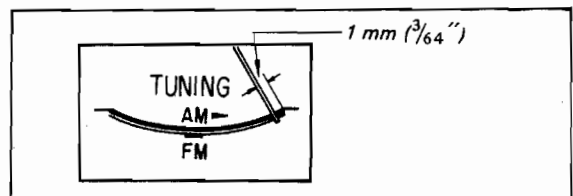
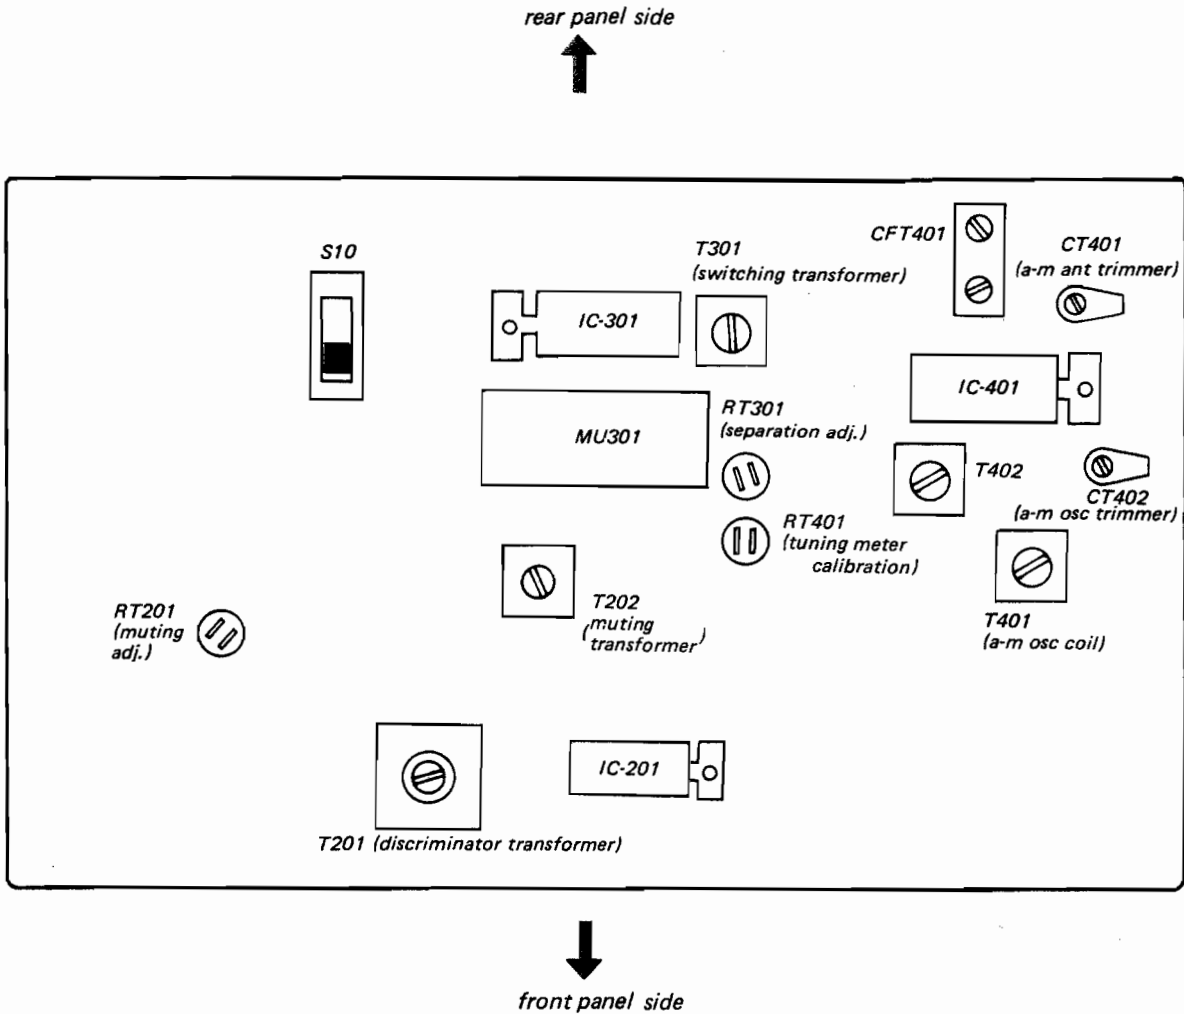

Fig. 3-9. TUNING meter calibration
Fig. 3-10. Adjustment parts location
1. Precisely tune the receiver to the carrier frequency of stereo signal generator, then turn the top core of switching transformer T301 (See Fig. 3-10) to obtain maximum output at the left channel. Note that this adjustment has a close relationship with stereo distortion.
4. The output-level to residual-level ratio represents the separation. Adjust separation adj. control RT301 (See Fig. 3-10) for minimum residual level. Check the right channel for separation. Usually, about an 8 to 9 dB difference in channel separation exists. Readjust RT301 for minimum difference between left- and right-channel separation. While doing this, remember that the output level also changes according to the setting of RT301.
1. Turn RT201 (See Fig. 3-10) fully clockwise.
(See Fig. 3-10) for proper muting operation. Muting should begin at point equidistant from zero center.
Precisely tune the receiver to the signal and adjust RT401 (See Fig. 3-10) to obtain the meter pointer within 1 mm ( $\frac{3}{64}$ "') left of its maximum indication as shown in Fig. 3-9.